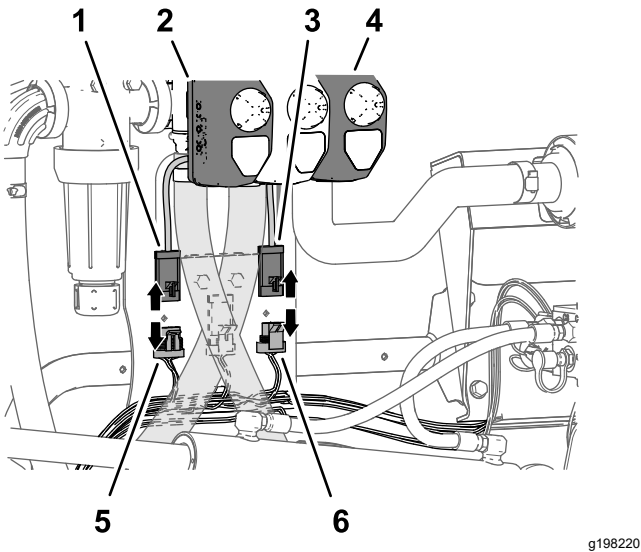

Figure 38
2. Disconnect the 4-socket connector of the machine wire harness labeled RATE VALVE from the 4-pin connector of the rate-valve actuator (Figure 38).
VALVE from the 3-pin connector of the master spray-valve actuator (Figure 38).